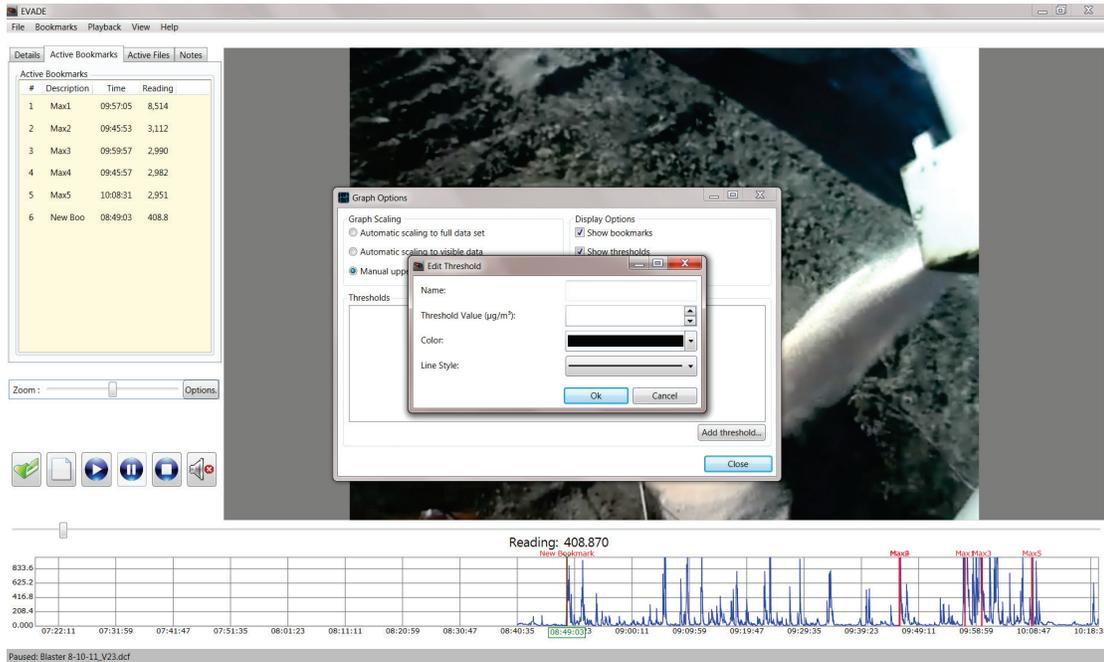

Figure 43. The Edit Threshold dialog box that opens when you click on the Add Threshold button.
1. Click on the **Add Threshold...** button on the Graph Options dialog box. The Edit Threshold dialog box will open (Figure 43).